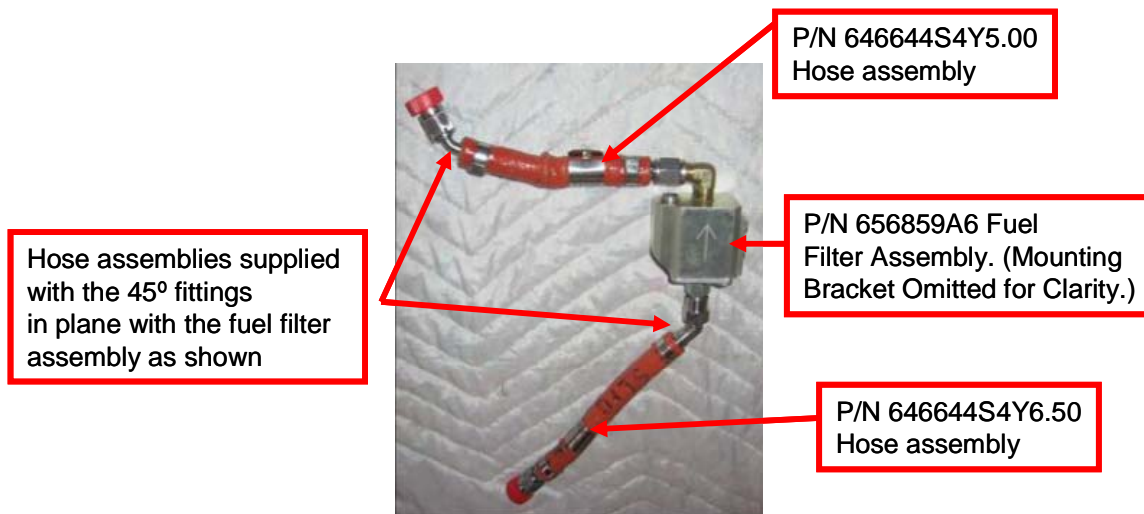
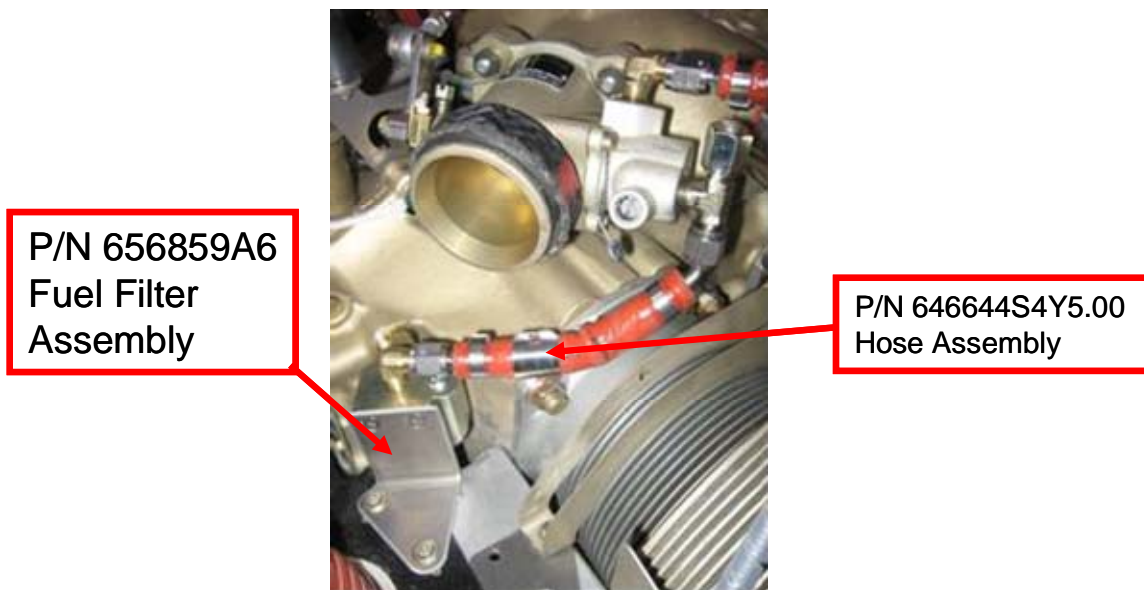

FIGURE 5
FIGURE 6
lower side of the filter installation. Attach the fuel filter to the forward apron by engaging the existing Camloc fasteners on bracket. (Reference Figure 6)
11. Connect the fuel filter outlet line to the metering unit inlet fitting. Torque to 135-190 Inch-Lbs. (Reference Figure 6)
9. Reinstall the hoses to filter 656859A6 (Reference Figure 5). Route the fuel pump to fuel filter line through the forward apron. It will be necessary to guide the fuel line around the back side of the engine driven fuel pump and into the correct position for installation. Assure that that the four lockwired screws are on the lower side of the filter installation. Attach the fuel filter to the forward apron by engaging the existing camloc fasteners on bracket. (Reference Figure 6)
14. Connect the fuel filter outlet line to the metering unit inlet fitting. Torque to 135-190 Inch-Lbs. (Reference Figure5)